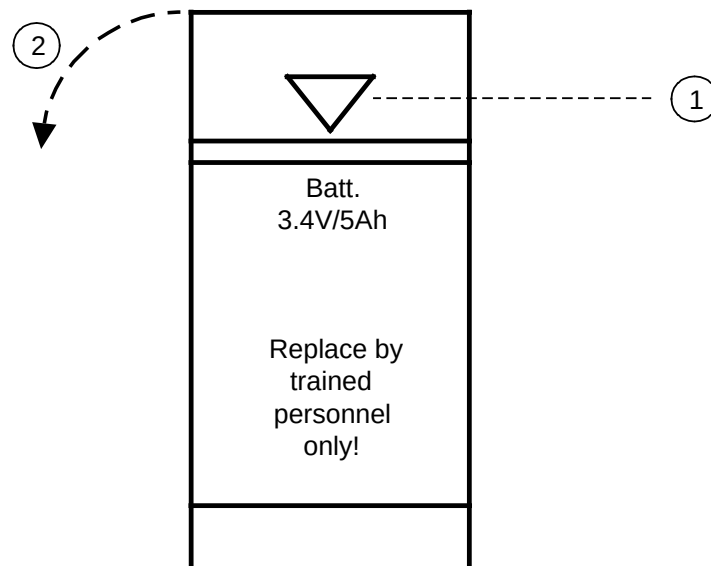

Figure B-1. Opening the Battery Compartment
1. Open the battery compartment as follows (see also Figure B-1):